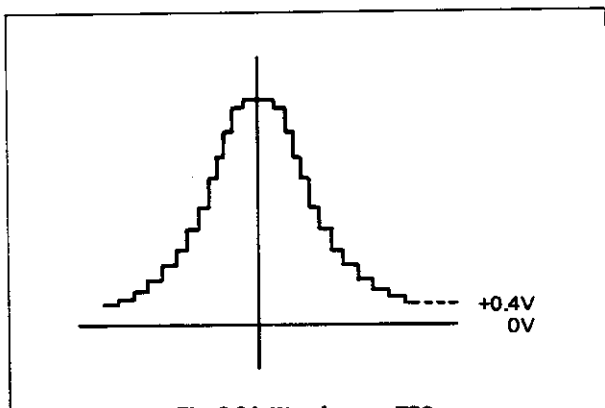
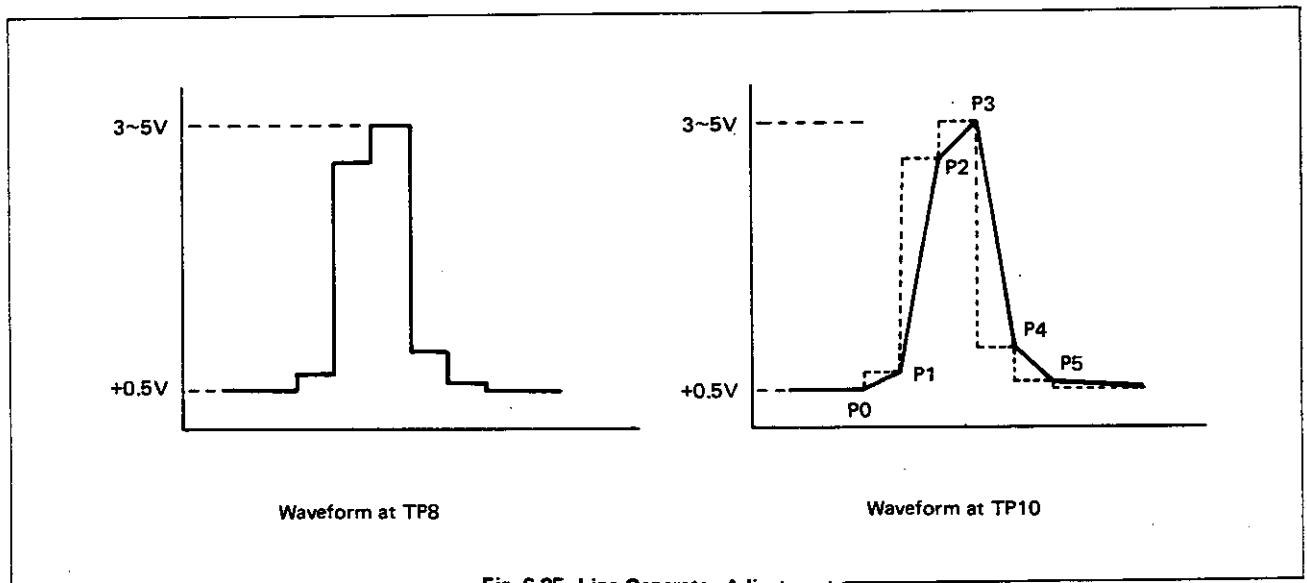

Fig. 6-24 Waveform at TP6
Fig. 6-25 Line Generator Adjustment
(5) Adjust R246 so that the waveform at TP6 observed on the oscilloscope moves by +0.4V (as shown in Fig. 6-24) when the base line is placed at -80dB graticule line on the CRT of the TR4132/4132N.
(6) Adjust R245 so that the reference voltage for the D/A converter is 4.7V at TP7.
(7) Observe the signal waveform at TP8. Then check the waveform at TP10 and adjust C290 so that points P0 through P5 on the waveform overlap with those on the waveform at TP8 (line generator adjustment). See Fig. 6-25.